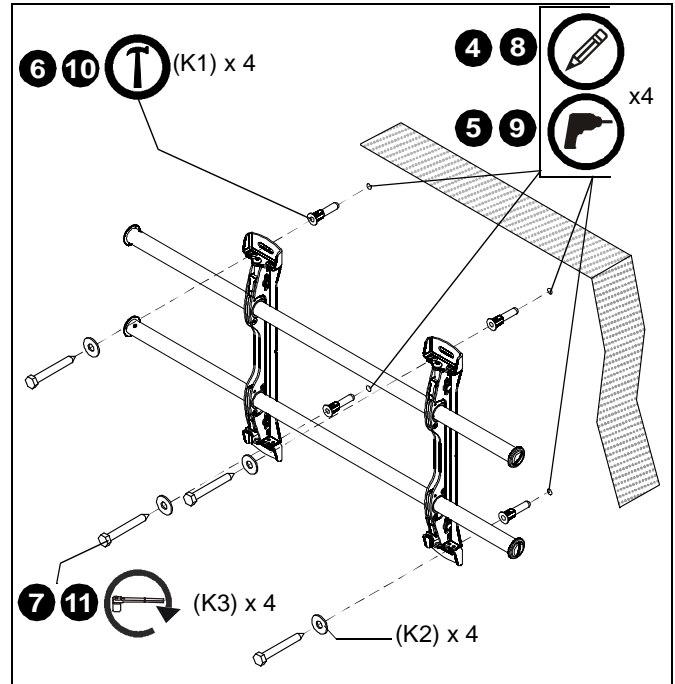

Figure 3
4. Using a level, mark the wall through both upper mounting slots. (See Figure 3)
8. Mark the attachment points for the lower mounting slots. (See Figure 3)
9. Drill one pilot hole at each marking for lower mounting holes. (See Figure 3)
11. Use two 5/16 x 2-1/2" lag bolts (K3) and two 5/16" flat washers (K2) to attach the mount to the wall through the lower mounting holes. (See Figure 3)